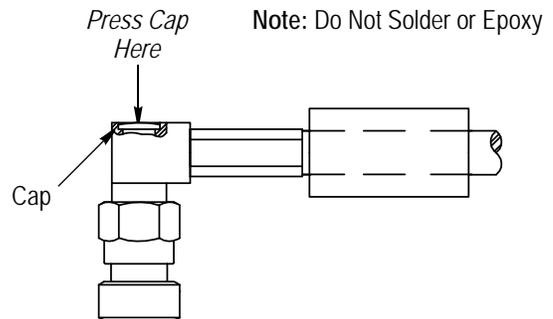

Figure 5
1. *Manually* press the cap into the opening at the back of the housing subassembly. See Figure 5.
- Removed solder from Figure 5